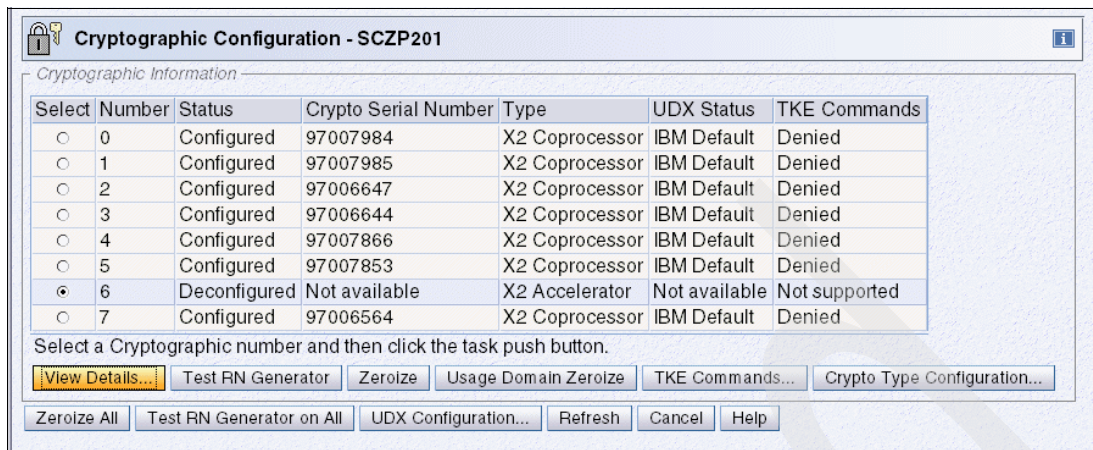

Figure 8-25 SE - Cryptographic Configuration (Accelerator)
7. Click **Cancel** on the Crypto Type Configuration panel to return to the Cryptographic Configuration task panel. You can confirm that the target crypto channel changed to cryptographic accelerator type in the Cryptographic Configuration task panel (Figure 8-25 on page 356).